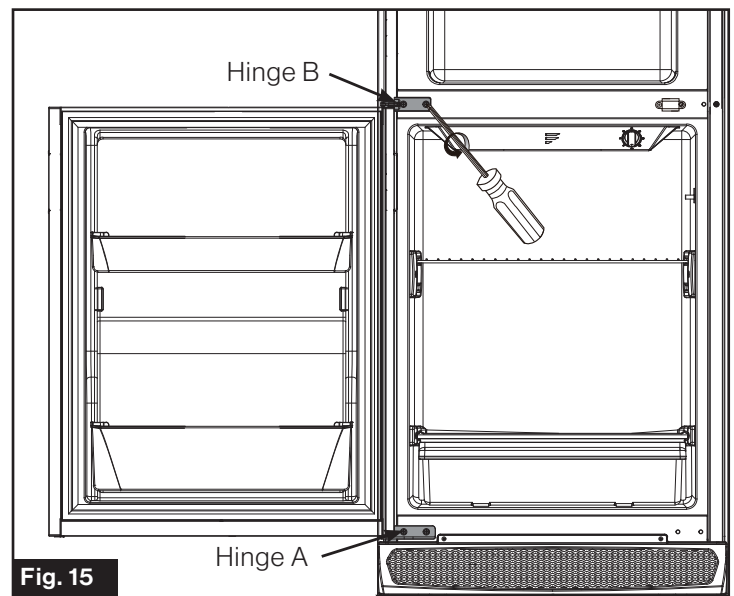

Fig. 15
- Fix the Hinge A at the bottom left. Reinstall the Refrigerator Door and fix the Hinge B to the left side of the middle beam. (Fig. 15)